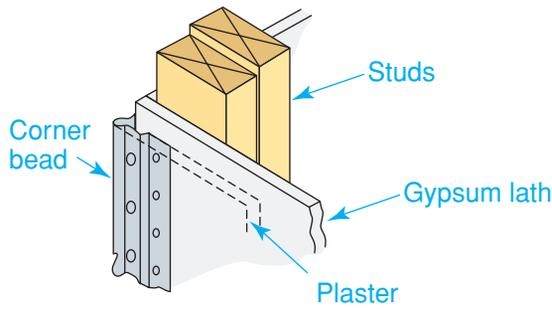

Figure 32-20 Corner Bead
- *Metal corner bead* is required at all outside corners (see **Figure 32-20**). It has a solid galvanized metal edge and expanded flanges. Each flange is approximately 2 $\frac{7}{8}$ " wide.